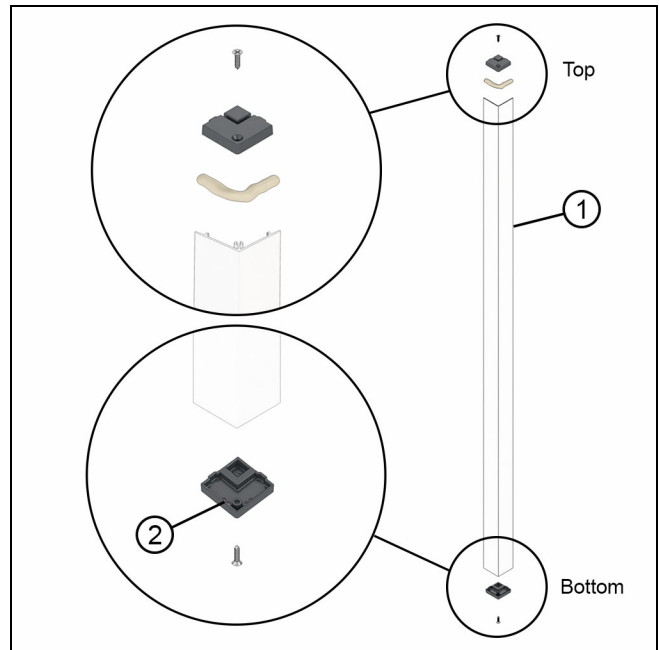

Figure 51
18. Attach the end caps to the corner cap with the supplied #7 x 5/8" screws. See Figure 51.